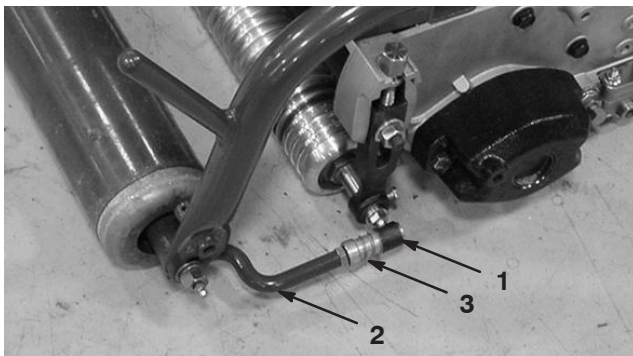

Figure 10
4. Slide the sleeve back on the ball joint and rotate the pull arm down so the socket fits over the ball stud. Release the sleeve so it slides over the stud and locks the assemblies together (Fig. 10).
6. Align the sockets in the ball joints so the open side of the socket is centered towards the ball stud. Tighten the jam nuts to secure the sockets in position (Fig. 10).